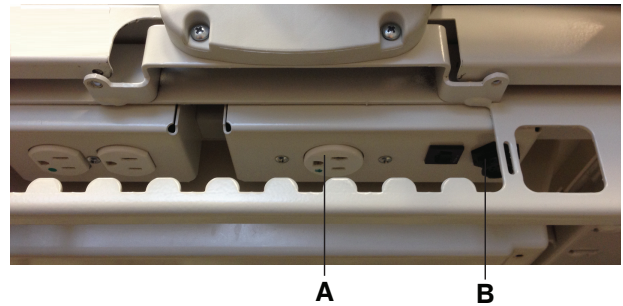

Figure 35: Auxiliary mattress connector outlet
2. Connect the integration cable from the support surface to the auxiliary mattress connector (B) (Figure 35 on page 52).
3. Plug the support surface power cord into the auxiliary mattress connector outlet (A) (Figure 35 on page 52).